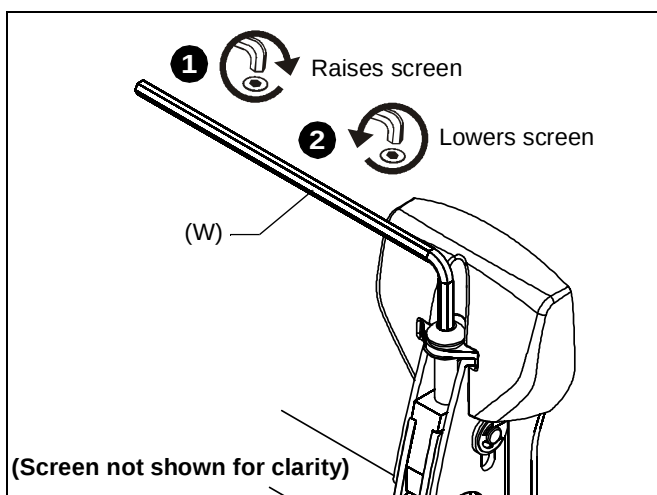

Figure 14
1. Turn to right (tighten) to raise side of screen. (See Figure 14)
2. Turn to left (loosen) to lower side of the screen. (See Figure 14)